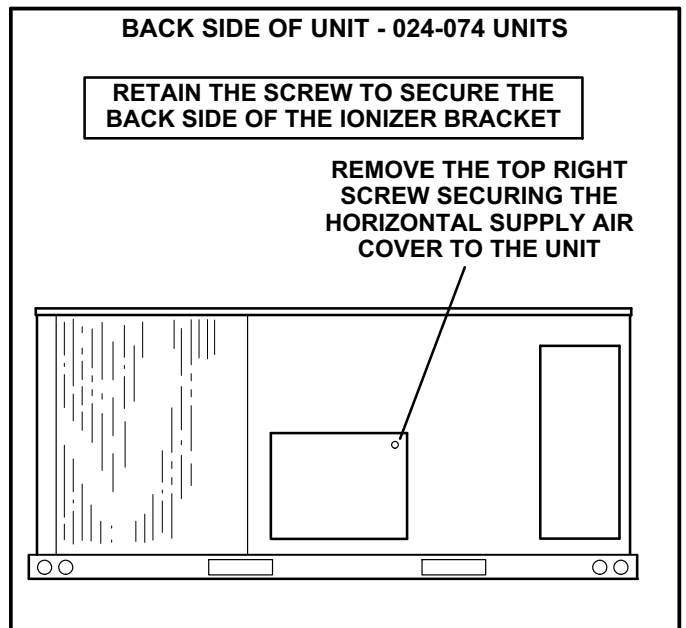

FIGURE 1
- 4- On the back side of the unit, remove one screw securing the horizontal supply air duct cover in place. See figure 1. Retain the screw to secure the back side of the ionizer bracket.